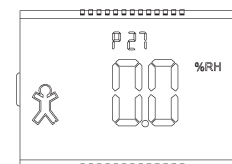

Fig. 12: %RH Offset
- b. HUMIDITY OFFSET - Screen P27 (figure 12)